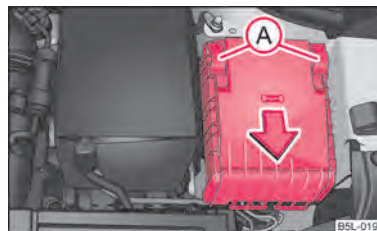

Fig. 178 Fuse cover in engine compartment
- Move the circlips (A) ⇒ fig. 178 as far as the stop, the symbol  appears behind the circlip and remove the cover.